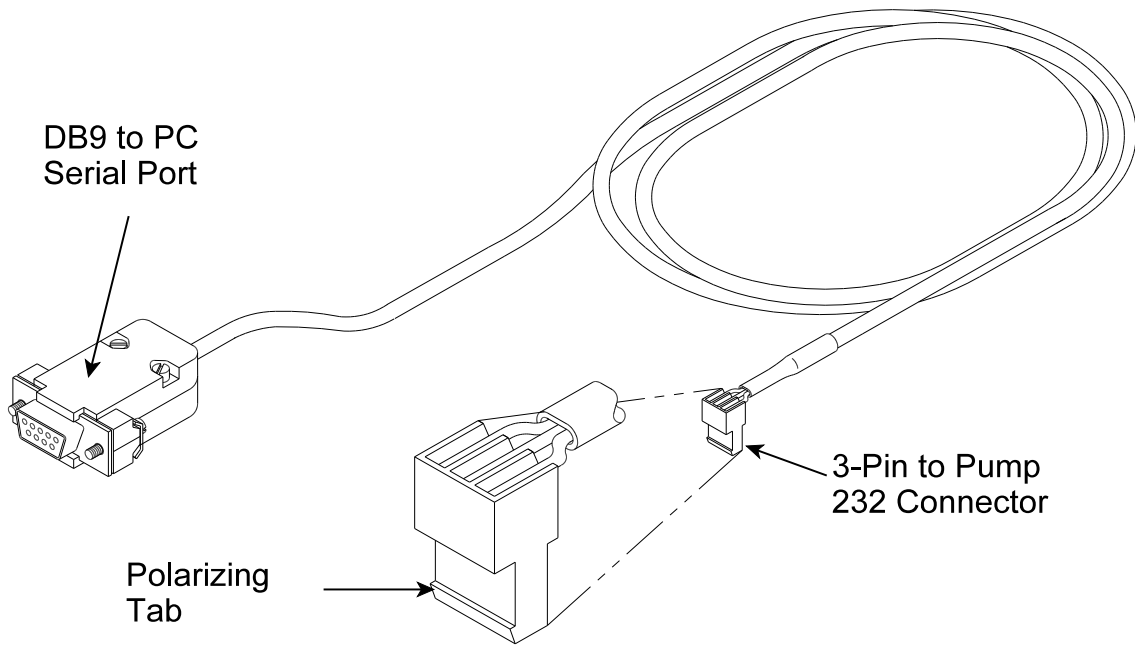

Figure 3-2 PC Serial Communications Cable P/N 17734
2. RS232 Communications cable, P/N 17734 (Figure 3-2)
The Communications Cable (com cable) has a DB-9 connector on one end and a three-pin .1-inch connector on the other end, as shown in Figure 3-2. Plug the 3-pin